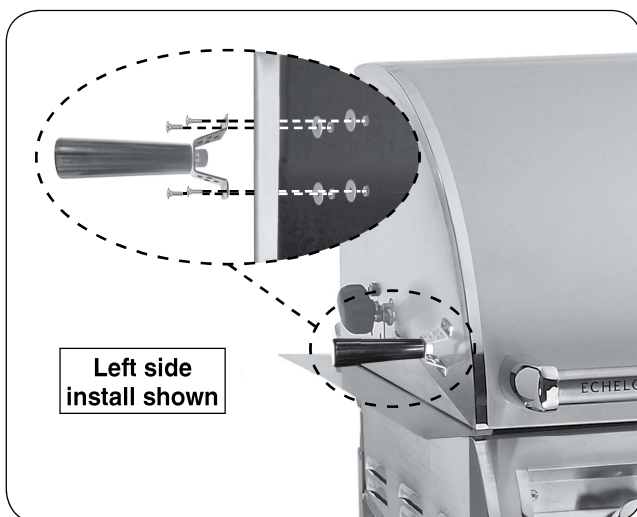

Fig. 1-3 Install bracket to hood
4. Align the bracket to the holes on the oven hood and fasten the handle kit using the supplied screws, washers, and nuts (see Fig. 1-3).